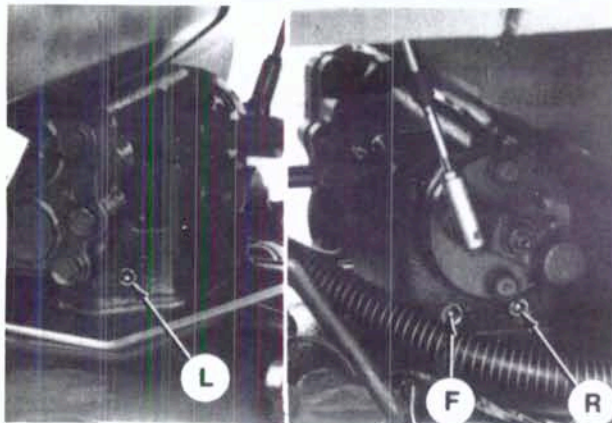

Fig. 120—Location of hydraulic pressure test ports on shuttle valve used on Model L355.
88. **TEST AND ADJUST.** To check clutch relief pressure and lubricating oil pressure, proceed as follows: Remove hood and install a pressure gage at plug location "L" (Fig. 120) to check lubricating oil pressure. Forward clutch pressure is checked at port "F" and reverse clutch pressure is checked at port "R". Be sure hydraulic oil is at normal operating temperature when checking pressure. Operate engine at 2600 rpm and observe lubricating pressure which should be 100-195 kPa (14-28 psi). Position shuttle control lever at "Forward" or "Reverse" and check clutch pressure reading. Clutch pressure relief setting should be 1590-1740 kPa (230-250 psi) in either direction.